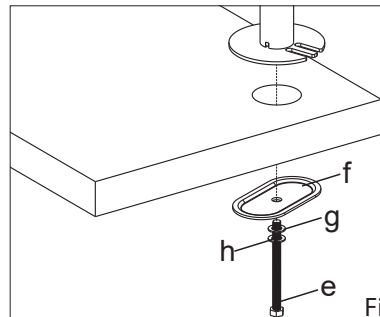

Figure 4
2. Position the Pole (a) on the mounting surface and secure using the Support Plate (f), M10 Washer (g), Spring Washer (h) and M10 Bolt (e). Fasten the M10 Bolt using provided Wrench (z), see Figure 4.